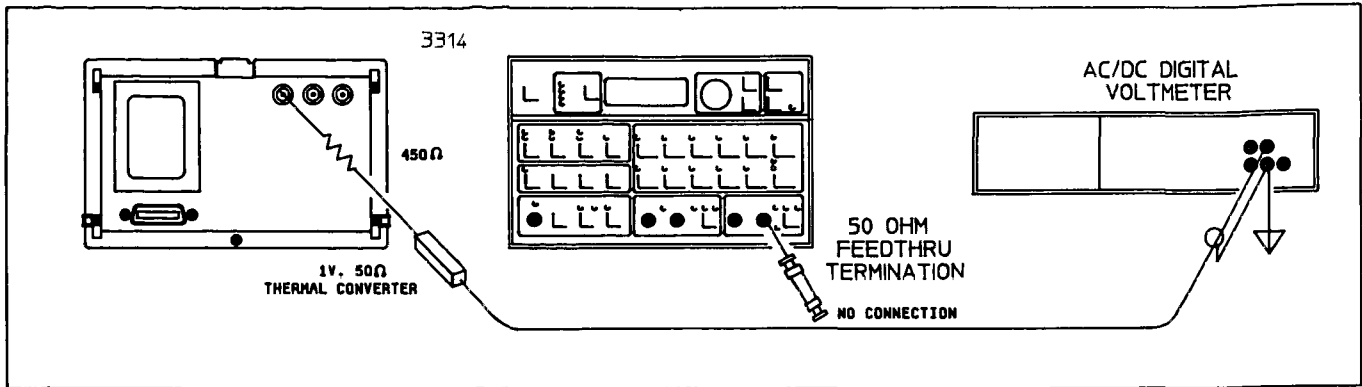

Figure 4-19. Sine Power Flatness Connections
- C. Connect the 50 Ohm Feedthrough Termination to the 3314A's Main Output. Connect the Voltage Reducer and Thermal Converter to the 3314A's X3 Output as shown in Figure 4-19.